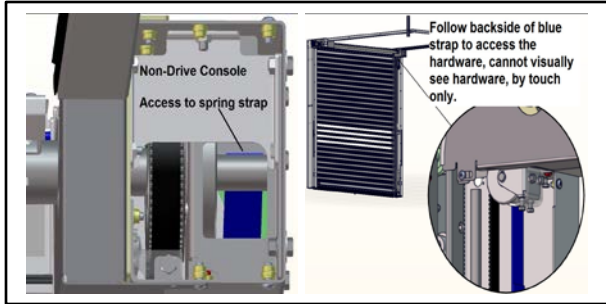

Figure 68
8. Then remove the steel plate and all associated hardware used to clamp the strap to the shaft. Save all hardware. (See Figure 68.)